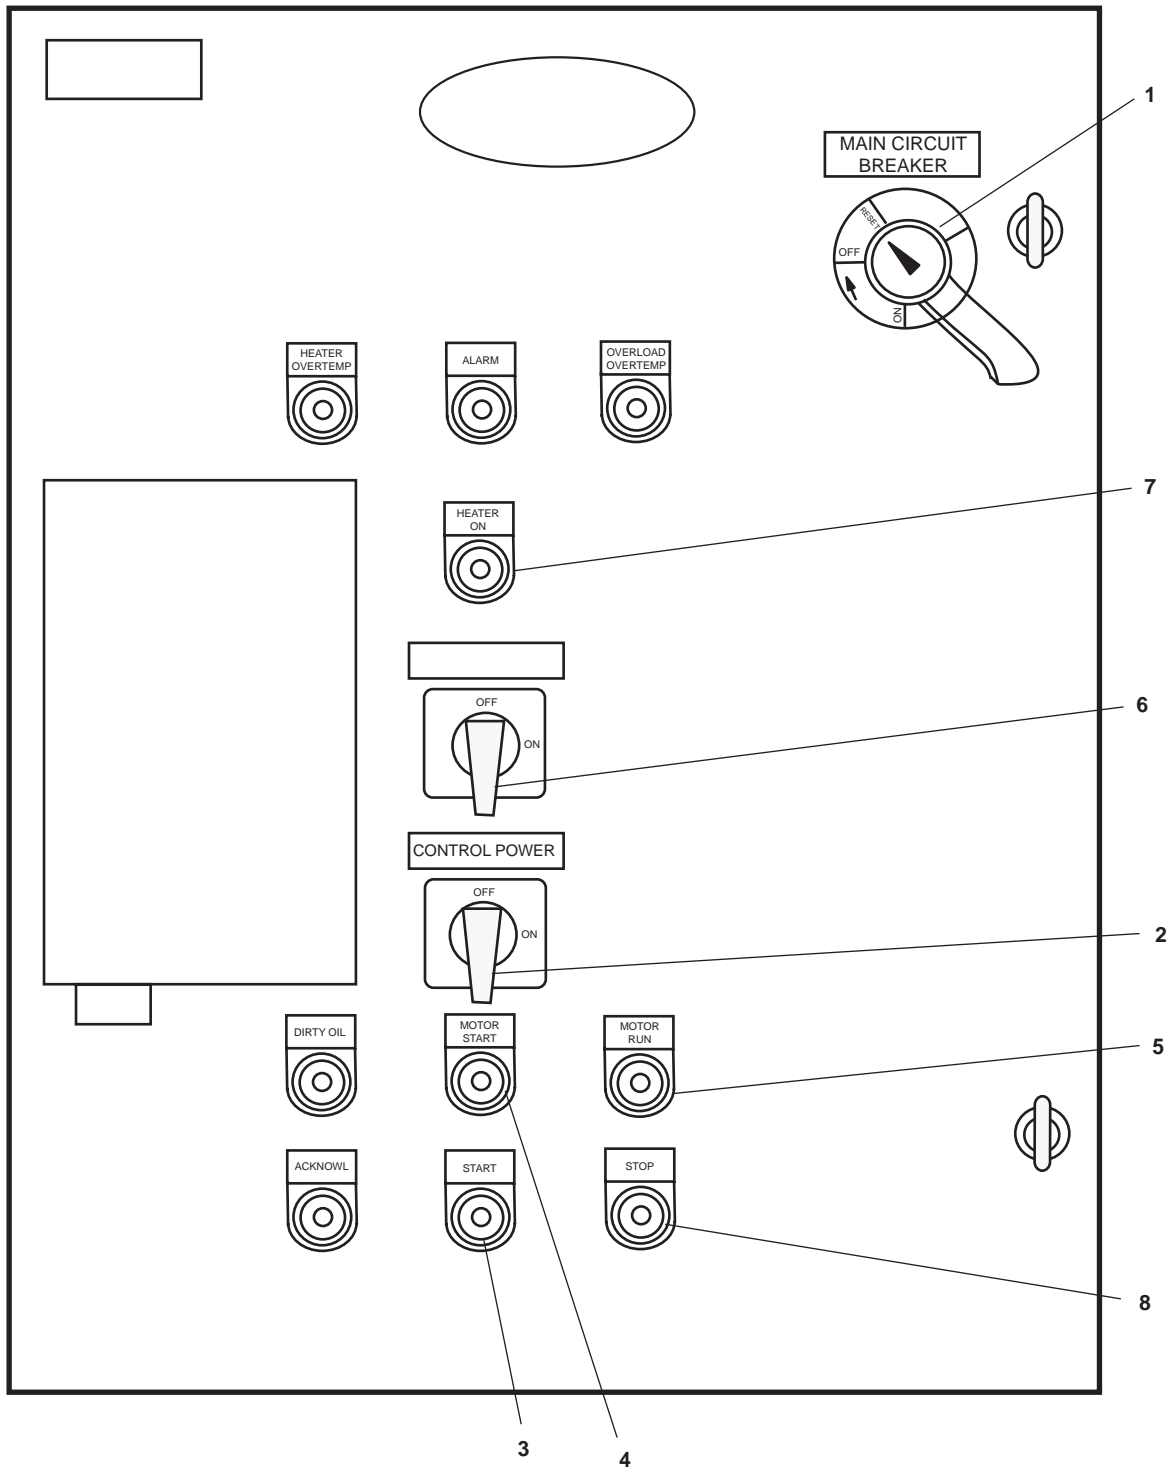

Figure 6. Lube Oil Purifier Control Panel
- (1) MAIN CIRCUIT BREAKER (figure 6, item 1).
- (2) CONTROL POWER switch (figure 6, item 2).
- (1) Press the START pushbutton (figure 6, item 3)
- (2) Verify that the MOTOR START indicator (figure 6, item 4) energizes.
- (1) After the bowl reaches its rated speed, verify that the motor run indicator (figure 6, item 5) is energized.
- (2) Verify that the motor start indicator (figure 6, item 4) goes out.
- (3) Set the HEATER switch (figure 6, item 6) to the ON position.
- (4) Verify that the HEATER ON indicator (figure 6, item 7) energizes.